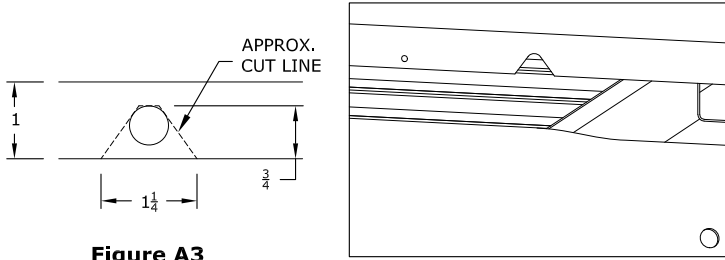

Figure A3
8. **Modify bed flange.** Cut a notch in the bed flange just above the frame in the passenger side rear wheel. Locate the 7/16" hole in this flange above the axle and enlarge the hole by removing the metal below the hole so that a notch is created, See Figure A3 & A4. This will allow the rear cross member to be installed.